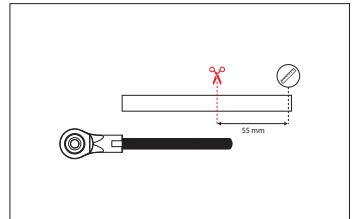

Fig. 11: Sensor arm center position
3. Shorten the rubber sleeve on the threaded rod. The length of the rubber sleeve must be 55 mm less than the distance [D] measured at point 1 (Fig. 11).